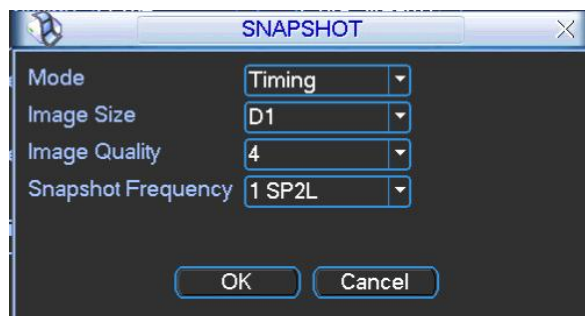

Figure 5-8
- **Snapshot:** Click snapshot button to view interface shown in Figure 5-8. (This function applies to some series only)